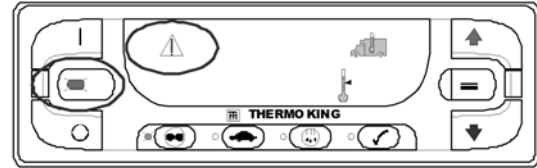

Figure 31: Display, Preferred Method for Manually Switching from Electric Mode to Diesel Mode
3. Press the TSD Control Panel ON Key to turn the unit on. The Hourmeters display will briefly appear and then the screen will appear as shown in Figure 31.
IMPORTANT: When the display shown in Figure 31 is present, do not press the TSD Control Panel OFF Key to turn the unit off. Press the TSD Control Panel ON Key again to clear Alarm Code 91 Check Electric Ready Input and turn the unit back on in Diesel Mode.
If the TSD Control Panel OFF Key is pressed when the display shown in Figure 31 is present, the unit will turn off and the display will be blank.